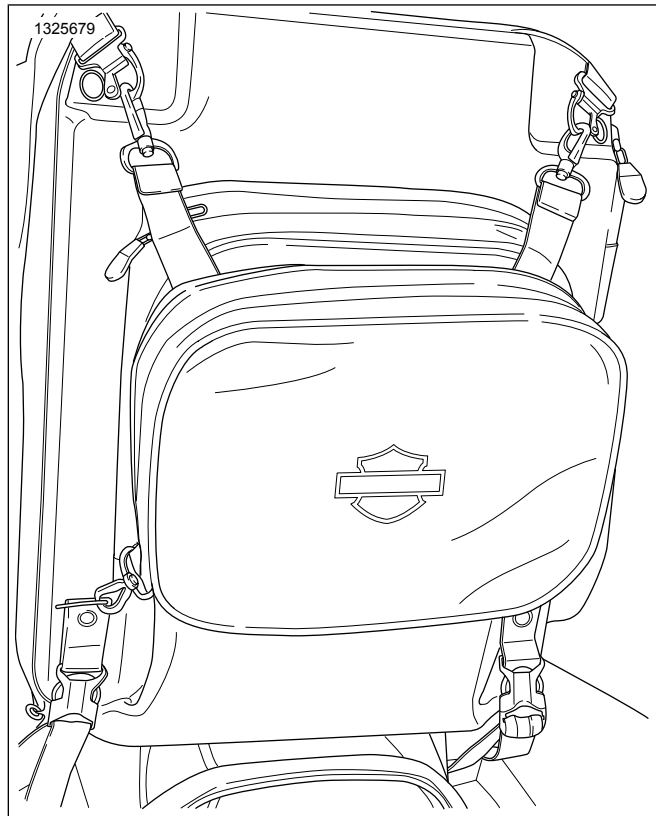

Figure 2. Premium Backrest Pad
1. See Figure 2. Attach backrest by snapping four clips to bag D-rings.